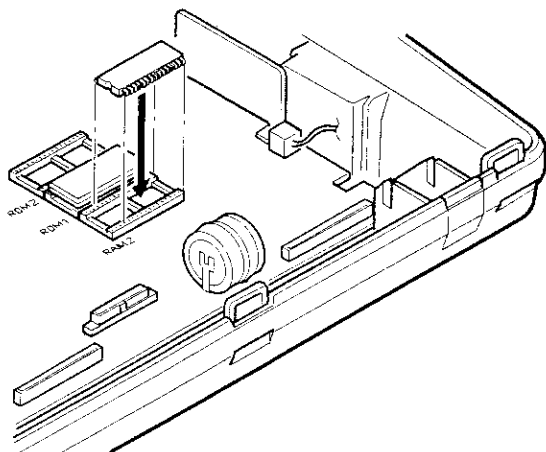

Fig. 1
① ER-01RA and ER-02RA
- 2) Insert the expansion RAM chip onto the socket RAM2 on the main PWB. (Fig. 1, 2)
The number of pins are different between the ER-01RA (28 pins) and the ER-02RA (32 pins). Observe the correct position for insertion of the chip. (Fig. 1, 2)